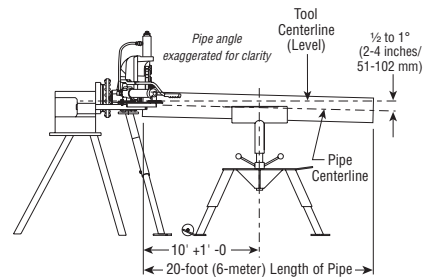

Figure 1 - Support of Pipe
4. If the tool is properly set up in a level position, but the back end of the pipe/tubing is higher than the end being grooved, the pipe/tubing may not track. As a result, excessive flare may occur on the pipe/tubing end. Refer to the "Tool Setup" section, starting on page 7, and Figures 1 and 2 below for tool setup and pipe positioning requirements.
- Figure 1 shows the Victaulic Adjustable Pipe Stand (VAPS 112). The VAPS 112 is suitable for $3/4$ - 12-inch sizes. The Victaulic Model VAPS 224 is suitable for 2 - 24-inch sizes. Refer to the "Accessories" section on page 35.
5. Place the pipe stand at a distance slightly beyond half the pipe/tubing length from the tool. Refer to Figure 1 below.